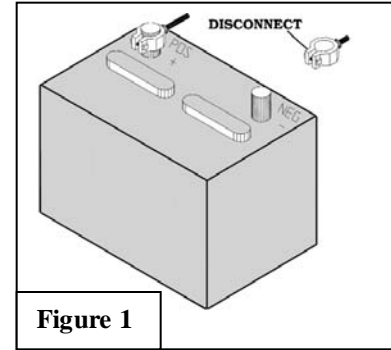

Figure 1
1. It is advisable to disconnect the negative battery cable for 3 minutes before beginning installation, to avoid unintended air bag deployment. Note and record any anti-theft radio codes prior to disconnecting. **Figure 1**